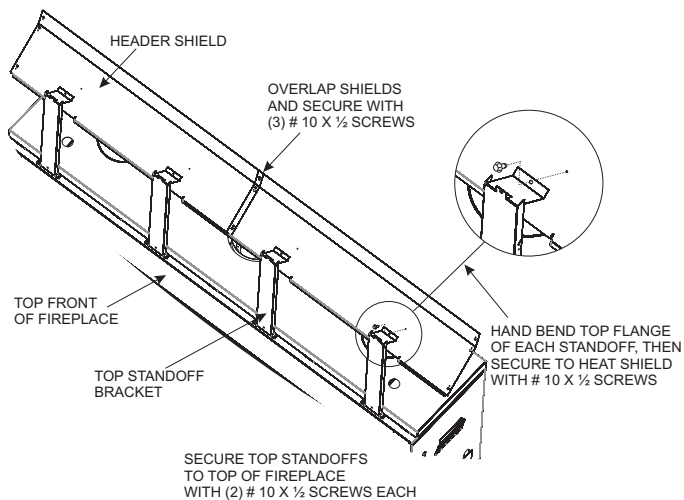
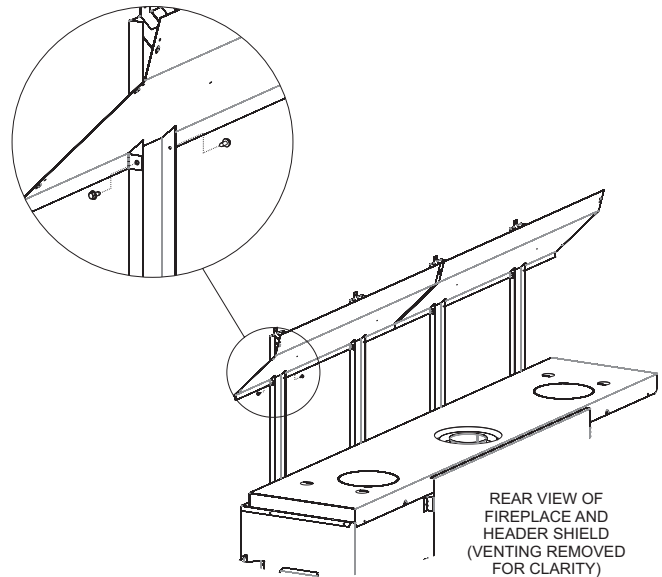

Figure 26
Figure 27
2. Install the **first** Top Standoff and Header Shield assembly to the top of the fireplace and framing header. **See Figure 26.** Install the **second** Top Standoff and Header Shield assembly to the top of the fireplace and framing header. **See Figure 27.** Next, connect the overlapped ends of the two header shields, and secure them together using the provided (3) #10 x 1/2 Hex Head screws.